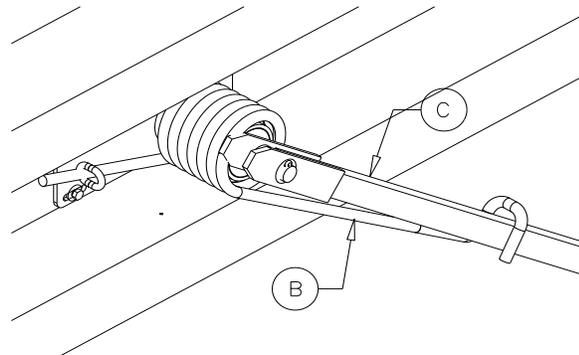

Figure 13
**Note:** The bottom pivot arm (C) may have to be shortened depending on the length of the box.
Position the bottom pivot arm (C) so it is hooked in the helical torsion spring (B) (see Figure 13).